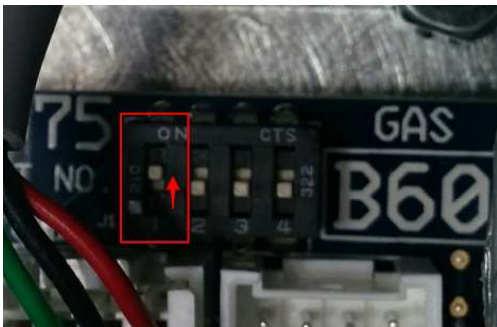

Figure 123: DIP Switch Setting
4. The last module in the chain needs to have the #1 DIP switch set to "ON" (Figure 123). Refer to the module ID label.
3. The last module in the chain needs to have the #1 DIP switch set to "ON" (See Figure 123). Refer to the module ID label.